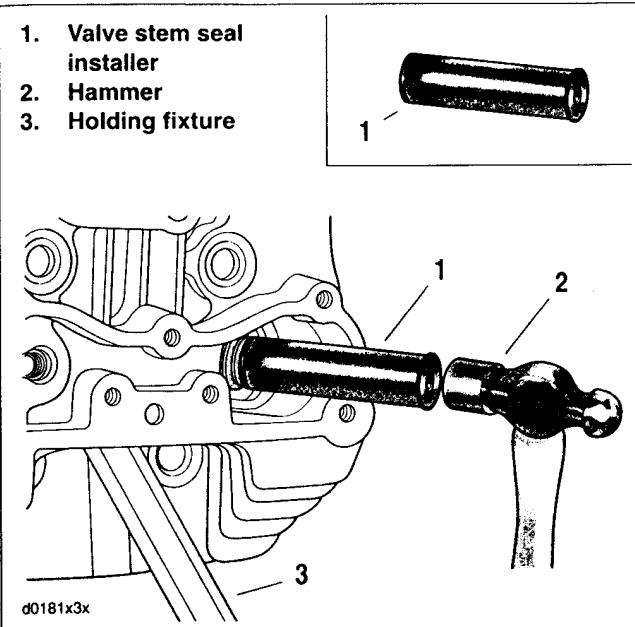

Figure 3-105. Tap Installer (Part No. HD-34643-A)
13. See Figure 3-105. Install valve stem seal using VALVE STEM SEAL INSTALLER (Part No HD-34643-A).
- Slide the installer tool (1) over the valve stem seal using valve stem as pilot. The tool bore allows insertion of the valve stem, while the counterbore fits over the valve stem seal.